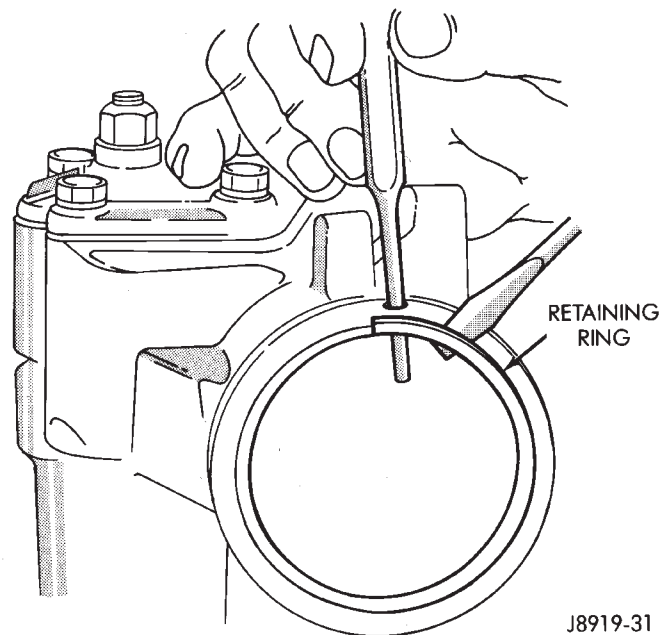

Fig. 16 End Plug Retaining Ring
- (1) Rotate retaining ring until one end is under the hole in the housing. Unseat and force ring from groove (Fig. 16).